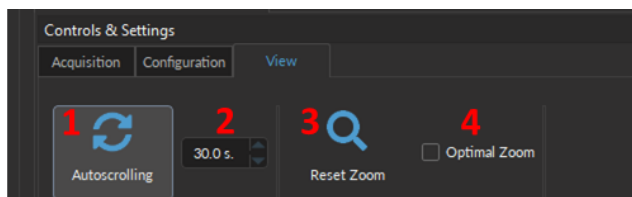

Figure 6.10: View Tab
The **View Tab** (Fig. 6.10) is used to modify the presentation of graphs in the **Acquisition view**.
1. The **Autoscrolling** button (Fig. 6.10, 1), when selected, automatically scrolls as new data appears.
2. The **Zoom range** (Fig. 6.10, 2) sets the **Autoscrolling** time axis to the value of choice, specified in the text-box.
3. The **Reset Zoom** button (Fig. 6.10, 3) readjusts the graph Y-axis to the default value, or the **Optimal Zoom** value if the Optimal Zoom check-box is selected.
4. The **Optimal Zoom** check-box (Fig. 6.10, 4) automatically adjusts the graph Y-axis range based on the values of the data collected. Smaller values will lead to greater zoom, and vice versa.